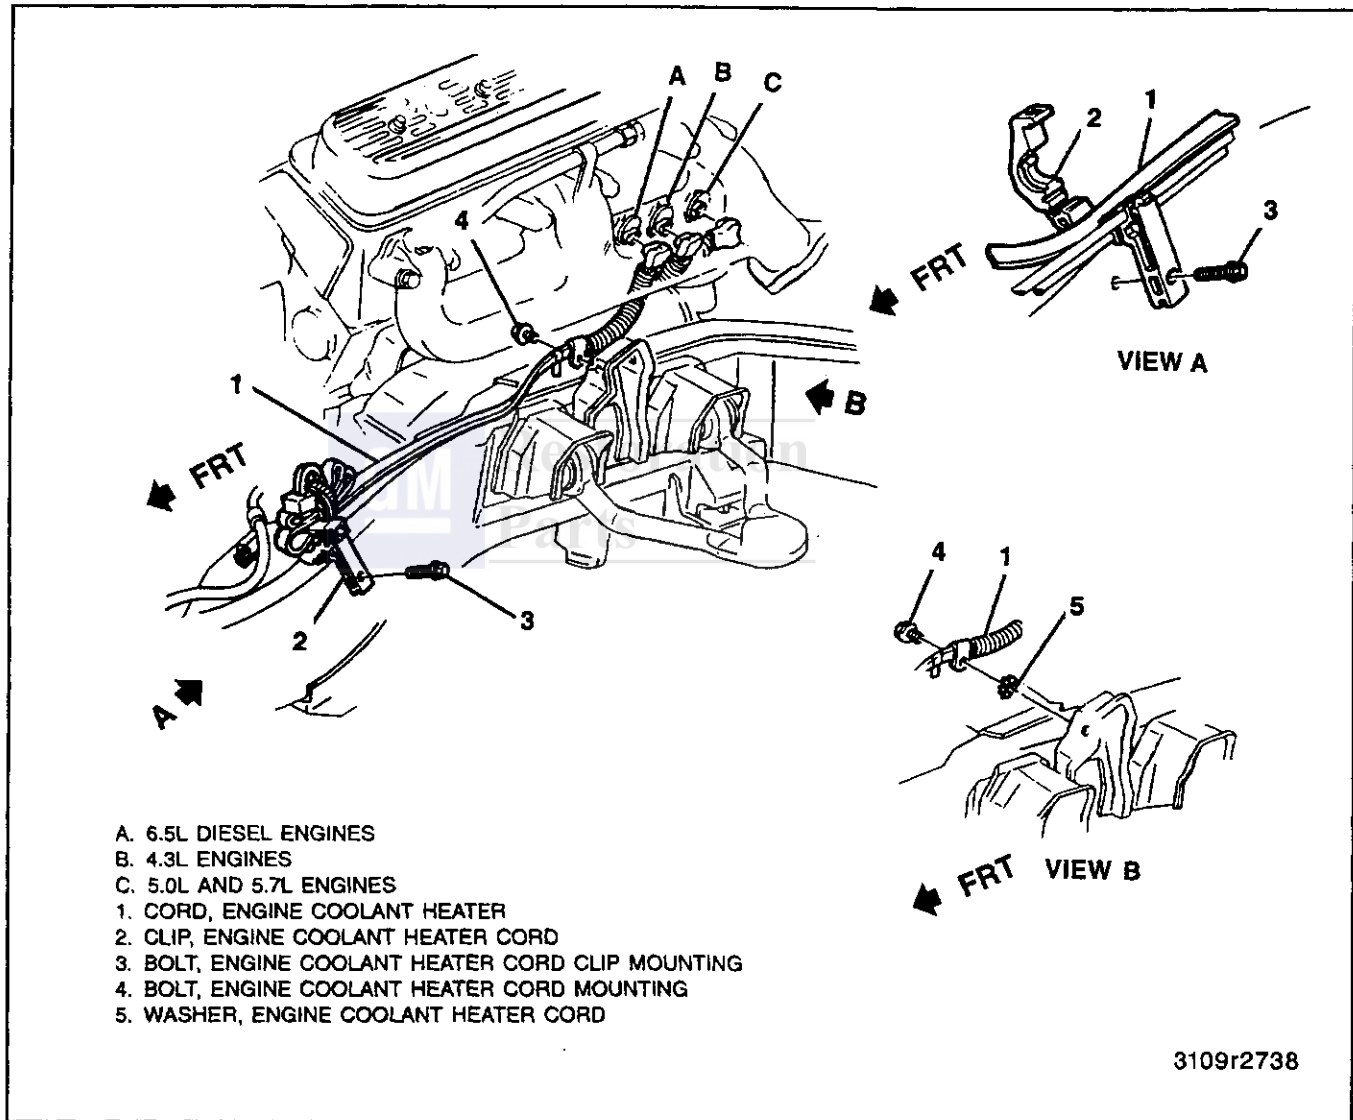

Figure 3—Engine Coolant Heater Cord Routing (Four-Wheel Drive Models)
4. Heater cord to the coolant heater and route heater cord (figures 3 through 6).